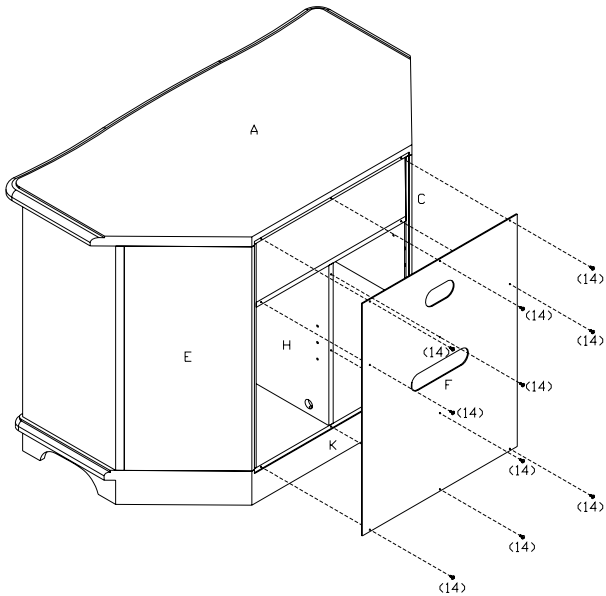

FIGURE 5
6. ATTACH MIDDLE BACK PANEL (F) INTO SLOTS ON PARTS (A, C, E, K). INSERT PAN HEAD WOOD SCREWS (14) THROUGH PREDRILLED HOLES ON MIDDLE BACK PANEL (F) AND TIGHTEN INTO REAR EDGES OF PARTS (A, C, E, K). AS SHOWN IN FIGURE 5